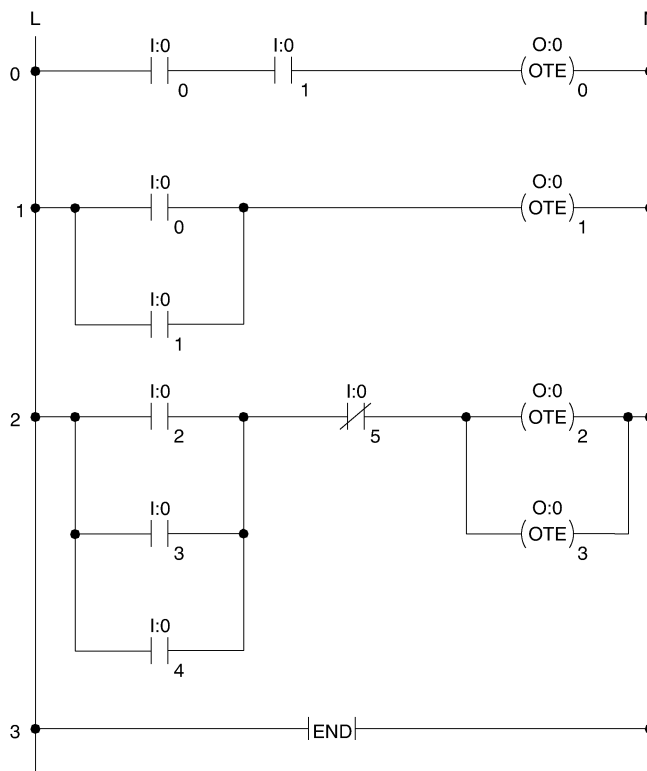

Figure 2-7. Main ladder program for processor EXERC\_2.
- 4. Figure 2-7 shows the main ladder program for processor EXERC\_2. The next steps of this procedure show how to enter this ladder program using RSLogix 500.
Type the following instruction address using the keyboard: **I:0/0**, then click the mouse left button to enter the address. The instruction address is now displayed in the ladder view. You have entered the first instruction of rung 0 shown in the ladder program of Figure 2-7.
***Note:** The "OTE" letters which stand for "Output Energize" in Figure 2-7, do not appear within the parenthesis of the symbol for this instruction in the displayed ladder diagram.*
- 9. You have now finished entering the instructions of rung 0 shown in the ladder program of Figure 2-7. However, rung 0 is still in the edit mode and has not been verified, since a column of e's still appears to the left of this rung.
- 11. You are now ready to enter the instructions of rung 1 shown in the ladder program of Figure 2-7. First, enter instructions XIC I:0/0 and OTE O:0/1 in rung 1.
- 12. In the ladder program of Figure 2-7, a branch is required to enter instruction XIC I:0/1 in parallel with instruction XIC I:0/0 in rung 1. To do so, click instruction XIC I:0/0 in rung 1 to select it, click the mouse right button to open the context-sensitive menu, and choose the **Insert New Branch** command.
- 14. All instructions of rung 1 are now entered as per Figure 2-7. Verify rung 1 and correct the errors, if any.
- 16. Enter all instructions of rung 2 shown in the ladder program of Figure 2-7.
The ladder program displayed in RSLogix 500 should be identical to that shown in Figure 2-7.